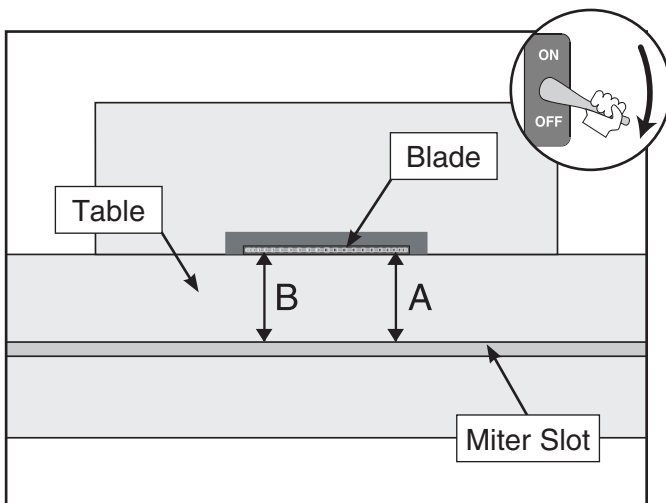

Figure 93. Measuring gap between the table and the blade.
4. Using an adjustable square or a dial indicator, measure the distance (A) between the miter slot and the front of the blade as shown in **Figure 93**.